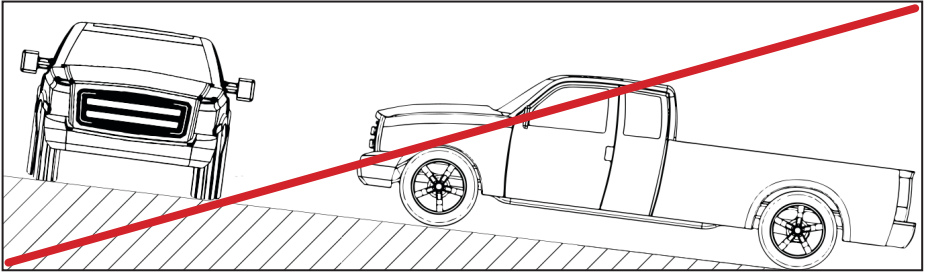

Figure 14 — Do not exceed 20° grade
- Ensure the vehicle is not parked on grades exceeding 20° as this will affect lubrication and air/oil separation (Figure 14).